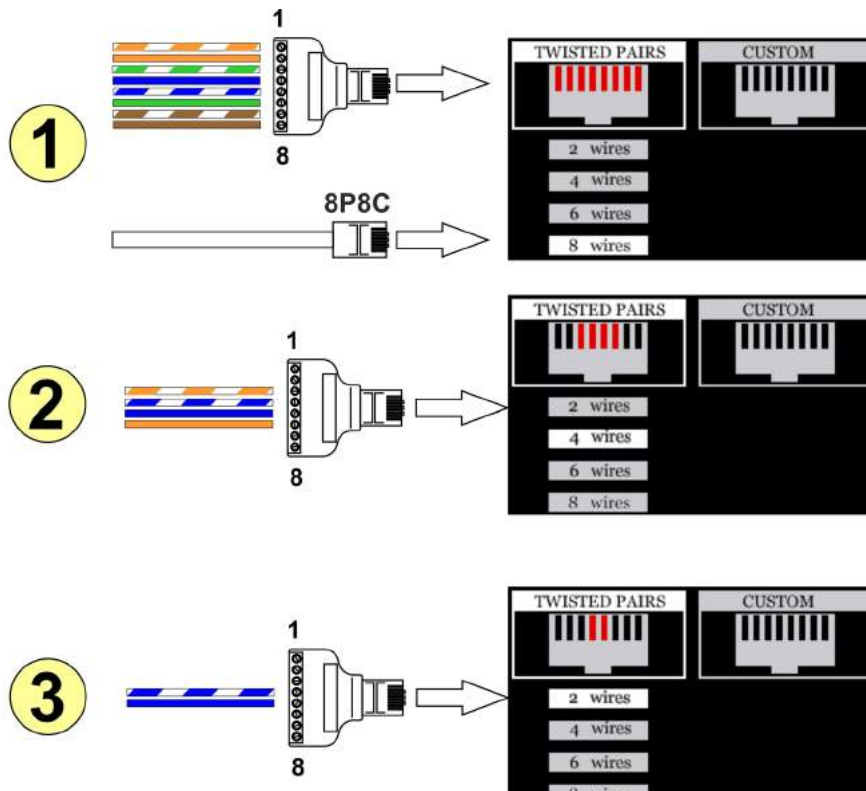

Fig.49
Fig. 49 shows cable settings when a cable consisting of one or more twisted pairs is connected.
In Fig. 49 (1) cable connection to a local computer network (UTF/FTP) is shown.
If the cable is not equipped with an RJ45 plug, its cores can be connected to the Electronic Switch through the Adaptor (25, Fig.1). Attention must be paid to connect wires of the appropriate colors to the corresponding contacts of the Adaptor. The contemporary color scheme (TIA/EIA 568B) is shown in Fig.49 (1).
Fig. 49 (2) shows the connection of a cable comprising two twisted pairs and not equipped with a plug. Such cables are often used in analogue, digital, and hybrid telephone lines. The standard color scheme for connection of the wires to the Adaptor's contacts is shown in the above figure. Select **"TWISTED PAIRS"** for cable type, and **"4 wires"** for the number of wires.
Fig. 49 (3) shows the connection of a cable consisting of one twisted pair and not equipped with a plug. Such cables are used in analogue and digital telephone lines. The standard color scheme for connection of the wires to the Adaptor's contacts is shown in the above figure. Select **"TWISTED PAIRS"** for cable type, and **"2 wires"** for the number of wires.
Set the cable parameters (2.5.1.1) as shown in Fig.49 (1).